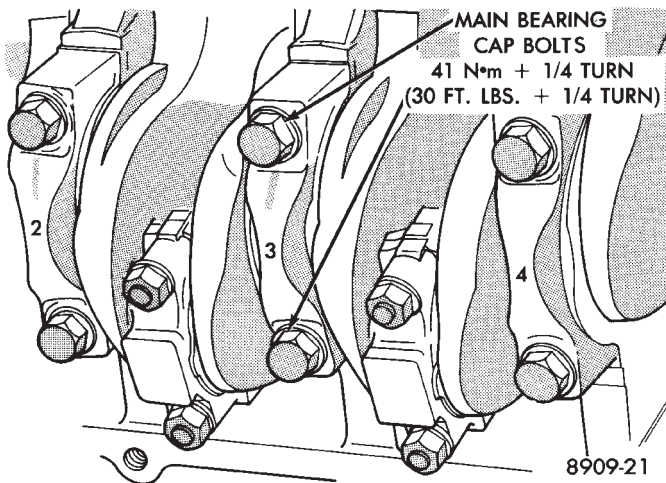

Fig. 14 Installing Main Bearing Caps
(7) Before installing the bolts the threads should be oiled with engine oil.
(8) Install both bolts in each cap finger tight, then alternately torque each bolt to assemble the cap properly.
(9) Tighten the bolts to 41 N•m plus 1/4 turn (30 ft. lbs. plus 1/4 turn). (Fig. 14)